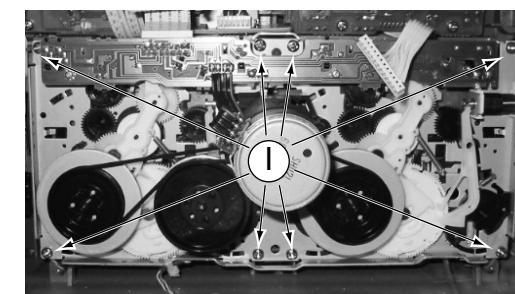

Figure 10
- 5) Loosen 8 screws ' I' to remove the Cassette Module figure 10.